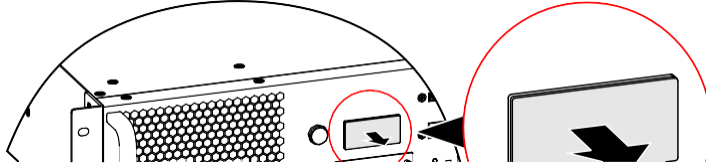

Figure3-21 Dismantle the SNMP card cover plate
Step 1 Dismantle the SNMP card cover plate on the bypass unit, as shown in Figure3-21.